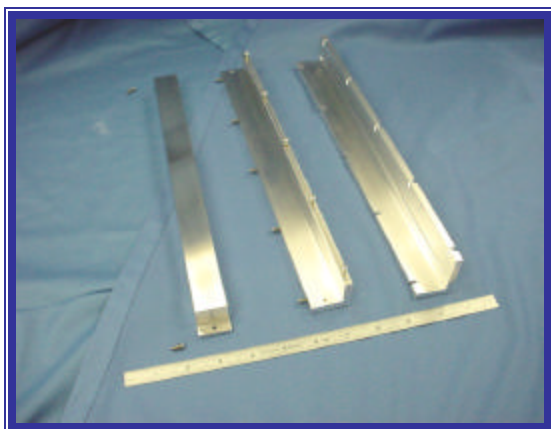

Figure 1a: Wrapping Mold Fixture: Top, Bottom, Al "Crystal"
- 4) Clean the wrapping mold top and bottom (PN: B7358 & B7359 respectively), and the dummy aluminum crystal bar (PN: B7357) using clean-room wipe and 100% ethyl alcohol. Allow parts to air dry before continuing process. Dry nitrogen may be used to decrease drying period. Wrapping mold tooling is shown in Figures 1a & 1b.